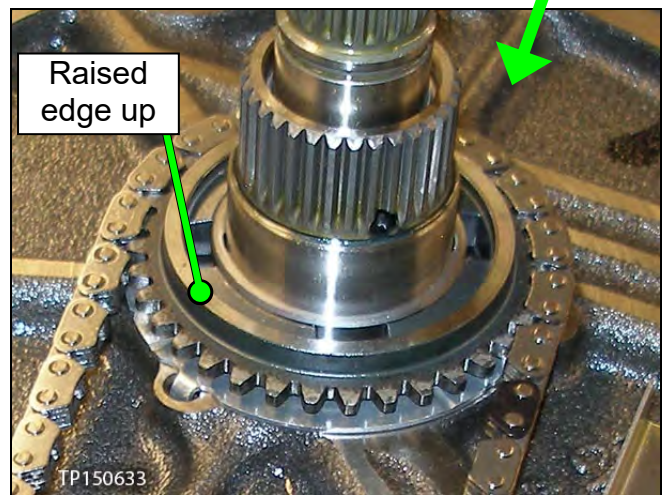

Figure 78
- Make sure the raised edge on the drive sprocket is facing up (see Figure 78).
- Figure 78 does not show the grommet seal. It is fitted to the bottom side of the filter.